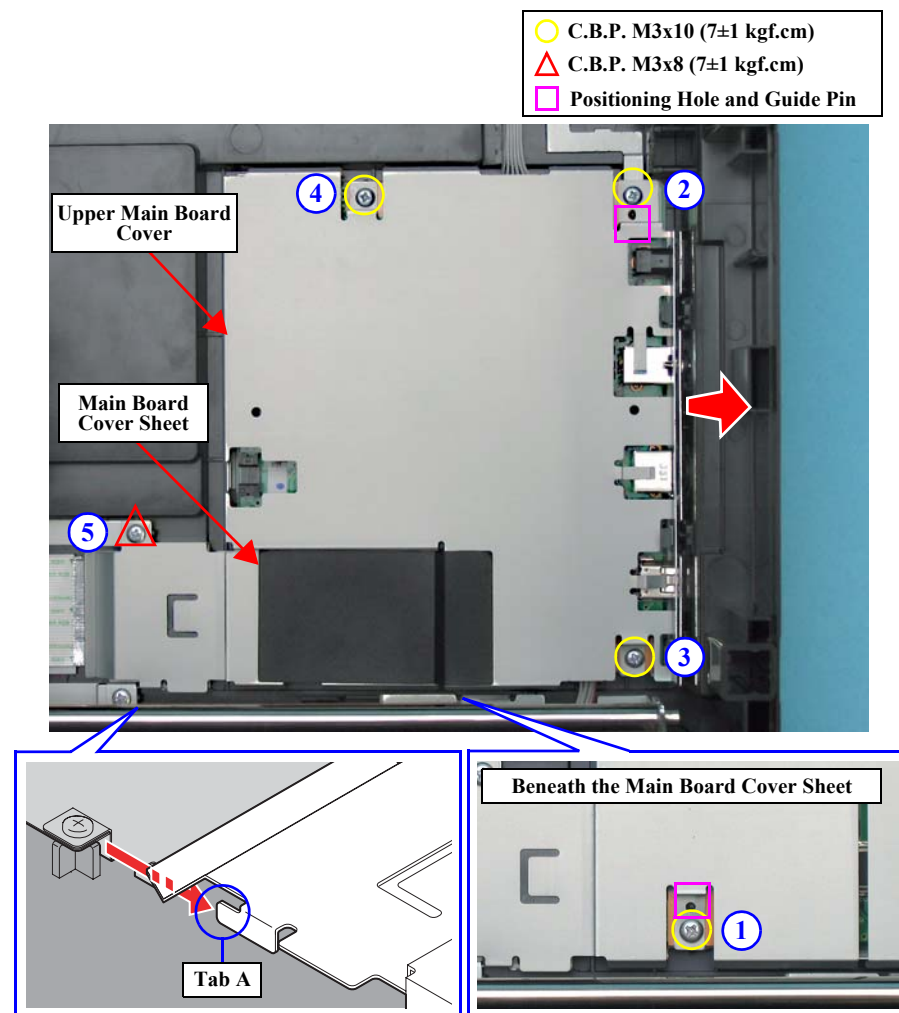

Figure 4-19. Removing the Main Board Cover
2. Match the positioning holes and guide pins as shown in Figure 4-19 on page 45.
3. Tighten the screws in the order given in Figure 4-19 on page 45.